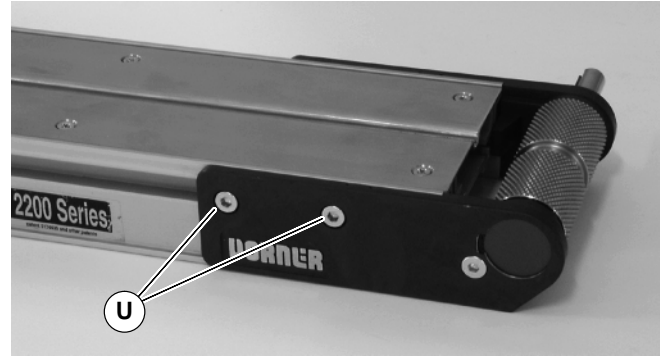

Figure 41
3. Install pulley assembly on conveyor. On both sides of conveyor tighten fastening screws (U of Figure 41) to 60 in-lb (7 Nm).